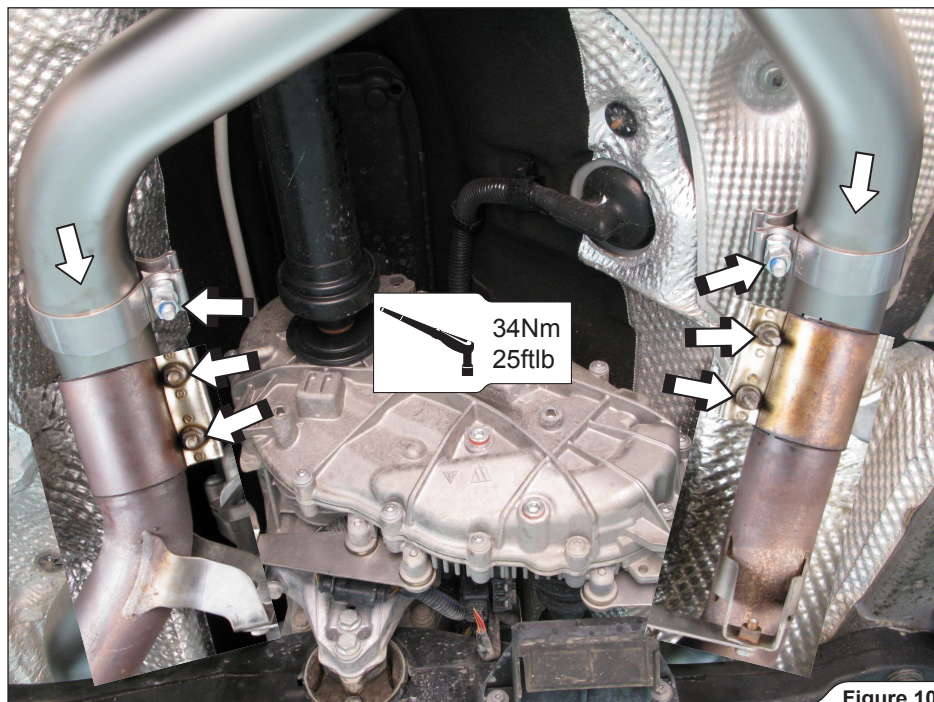

Figure 10
10. **For Evolution system only:** slide the Akrapovič middle pipes with adapters all the way onto the stock pipes, adjust the all clamps and tighten them to the specified torque (**Figure 10**).